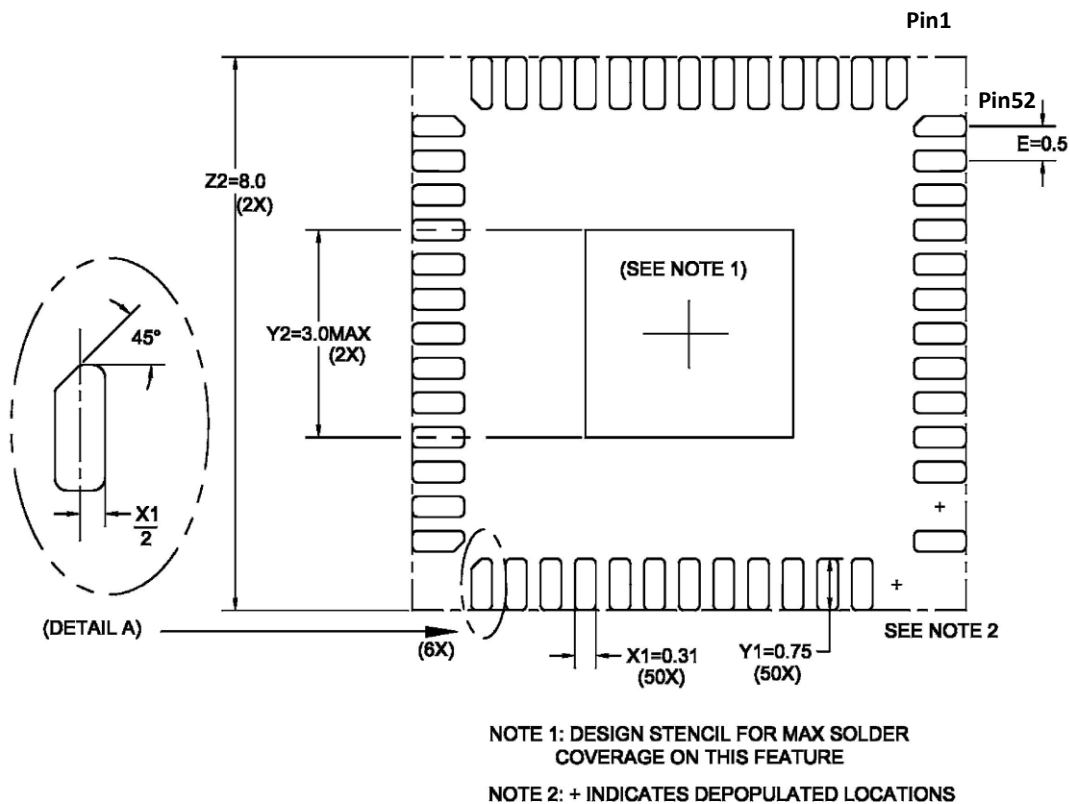

Figure 25. Recommended PCB Pad Pattern Top View
- PCB pad pattern diagram is shown in Figure 25.